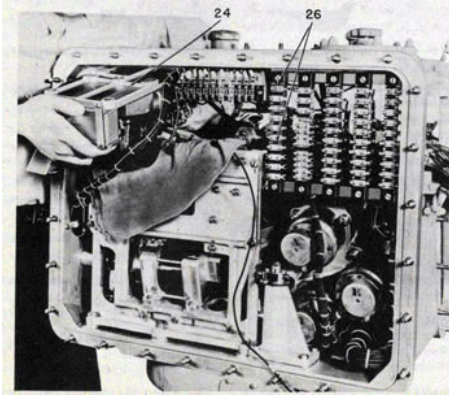

Figure 143-Replacing Own Ship Course Unit and Terminal Block Wiring.
26. Screw the clips on wires R1F, R2F, S1F, S2F, S3F, V1, V2, B1, U2A, and U2B to same numbered bus bars on terminal blocks in back of the director case. See figure 143.